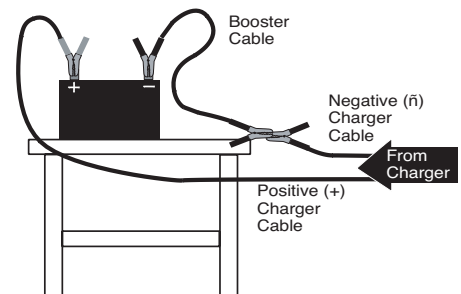

Figure 6. Connecting Outside a Vehicle
2. Check the polarity of the battery terminals (see Figure 6). The POSITIVE terminal should be marked POSITIVE, POS, + or P. The NEGATIVE terminal should be marked NEGATIVE, NEG, – or N.